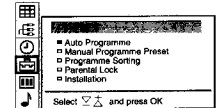

Fig. 3
- 1 Select the symbol for »Preset« with $\Delta+$ or $\nabla-$ and press OK. The PRESET menu appears. (See Fig. 3.)